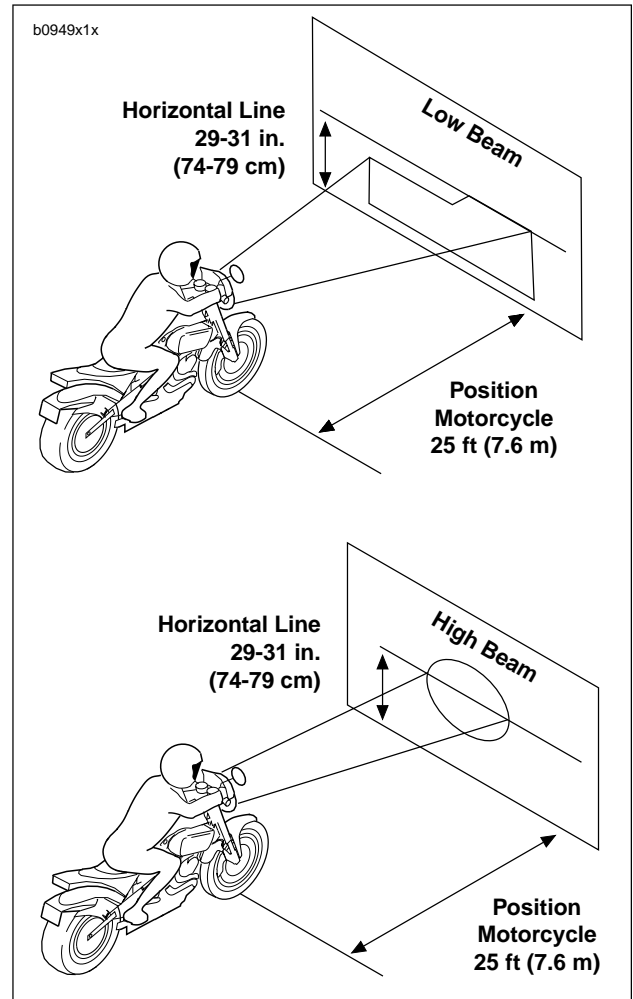

Figure 1-52. Checking Headlight Alignment
2. See Figure 1-52. Position motorcycle 25 ft (7.6 m) away from a screen or wall by measuring the distance from the front axle to the screen/wall.
- b. Check that the correct pattern of light is a double rectangular pattern and is aligned with the horizontal line as shown in Figure 1-52.
- b. Check that the correct pattern of light is a circular pattern and is centered on the horizontal line as shown in Figure 1-52.